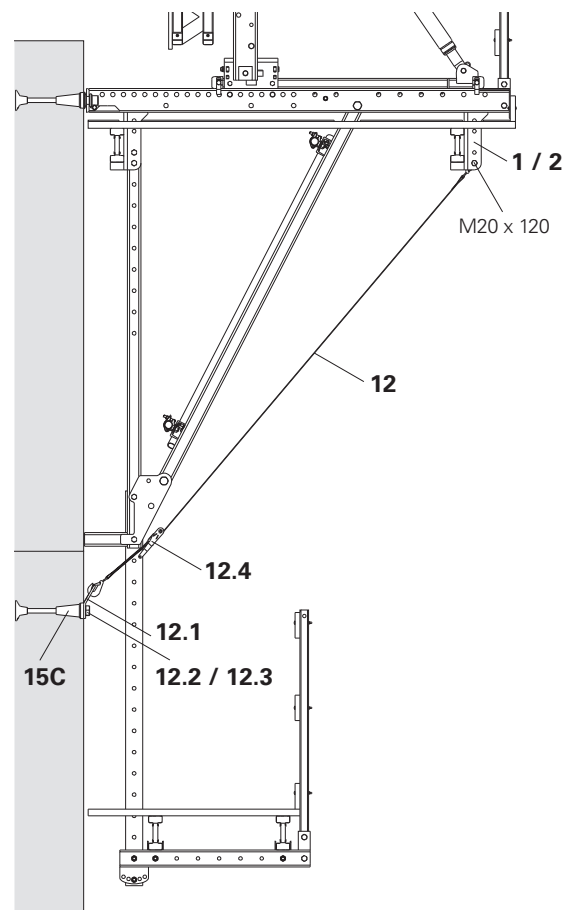

Fig. A2.09
2. Attach hook at the longer end of the Tension Belt (12) to the Bolt M20.
- (Fig. A2.09)
2. Insert Tension Belt (12) on the inner side of the bracket and attach hook to the Tension Belt Connector Wall M36 (12.1).